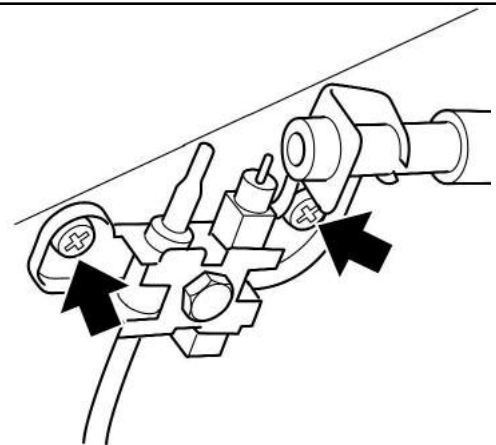

Figure 40. Pilot unit removal
6. Remove the two screws securing the pilot unit (See figure 40).